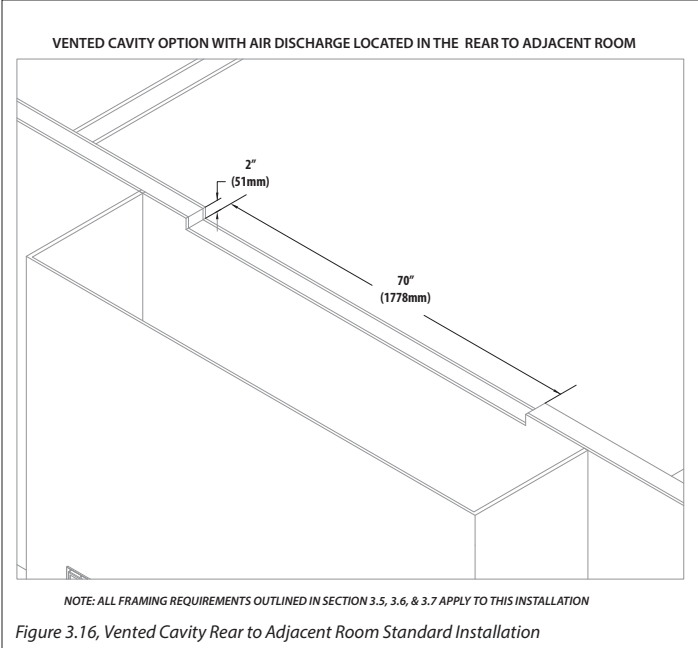
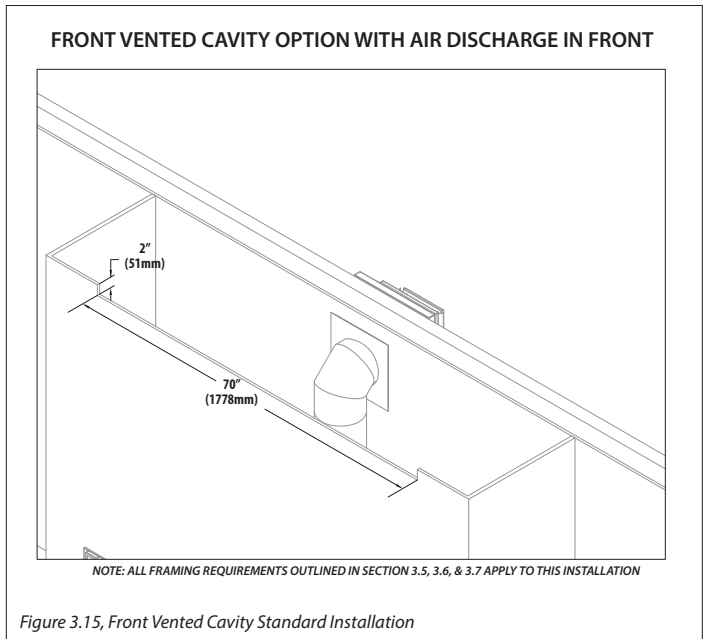

Figure 3.16, Vented Cavity Rear to Adjacent Room Standard Installation
Figure 3.15, Front Vented Cavity Standard Installation
- Figure 3.15 shows the minimum required dimensions for the vent cavity air discharge opening. This single 2" x 70" air discharge opening can be in either the front of the fireplace chamber, so hot air exits into the room the fireplace is installed, or the discharge opening can be in an adjacent room where the discharge opening would be located on the rear of the fireplace chamber. See Figure 3.16.